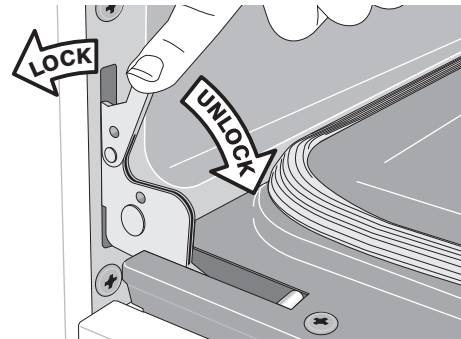

Figure 8: Door hinge locks
2. Pull the door hinge locks on both left and right door hinges down from the oven frame completely toward the oven door (See Figure 8). A tool such as a small flat-blade screwdriver may be required.
4. Push the door hinge locks up toward and into the oven frame on both left and right oven door hinges to the locked position (Figure 8).